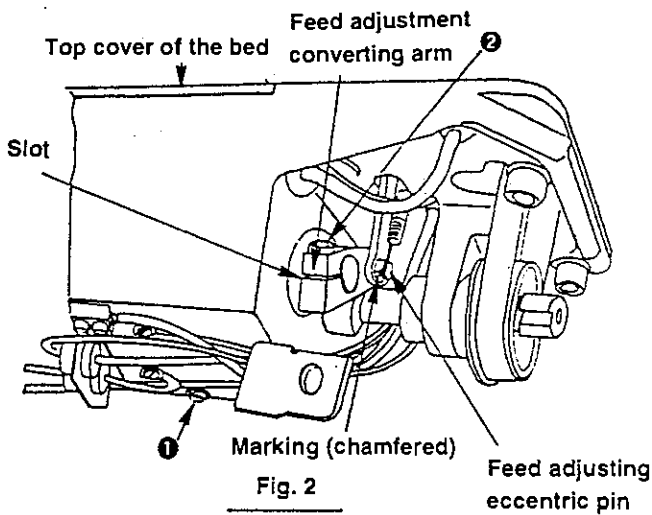

Fig. 2
- Check that the marking of the feed adjusting eccentric pin faces in the direction same as the slot in the feed adjustment converting arm. (Fig. 2)